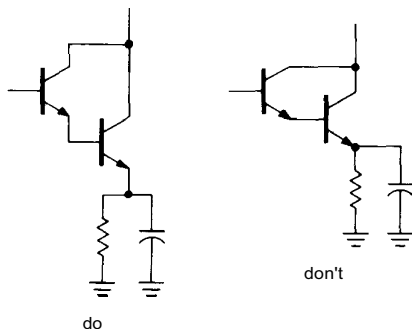

Figure E2
6. It is helpful to bring leads away from components a short distance before making connections or jogs. For example, draw transistors as in Figure E2.